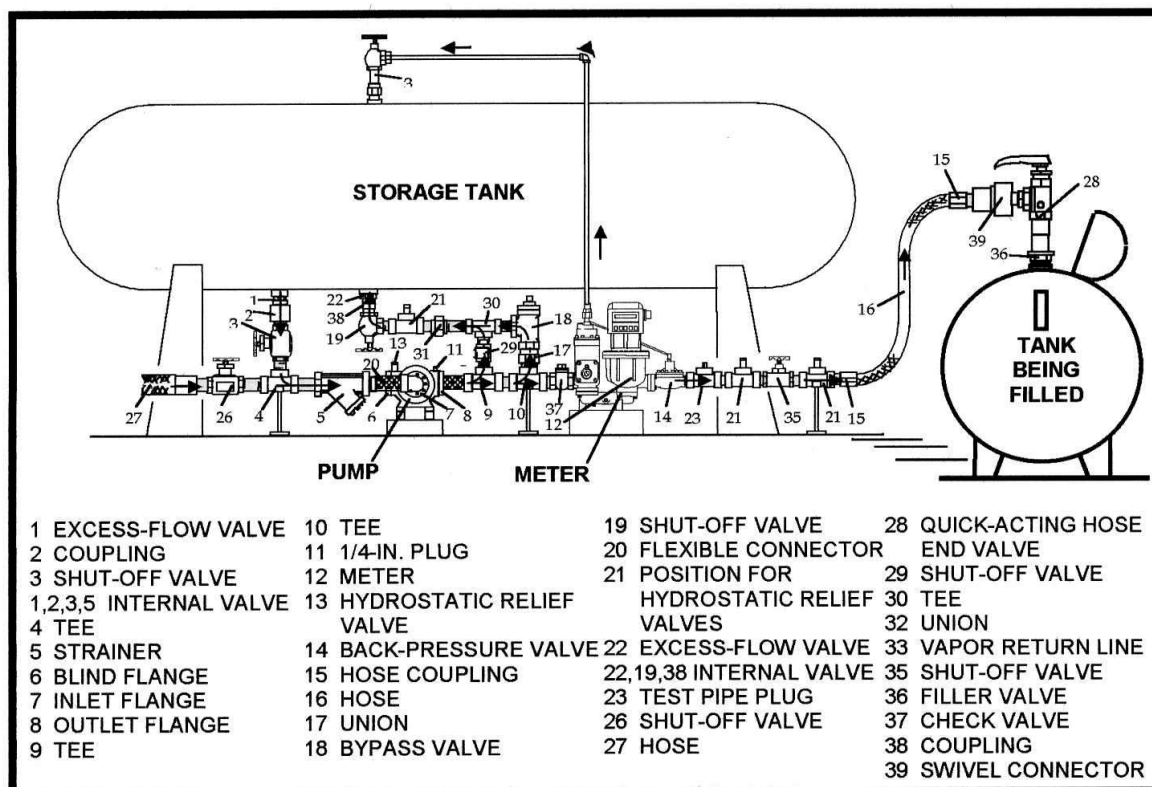

Fig. 4: TRADITIONAL BASIC LPG PUMPING SYSTEM
A "medium capacity pump" is a unit used when the required output is 20 to 50 USGPM of liquefied gas, during transfer operations. Such delivery rates can be attained when filling all sizes of tanks, except individually-filled cylinders. The medium sized pump can be used to do all kinds of work with reasonable efficiency. Pumps with a capacity of 35 to 50 USGPM are chosen in many cases, as these can be driven by 3 HP or 5 HP motors, with any type of electrical power available in the area. If electricity is not immediately available, *properly modified* gasoline, diesel, or LPG-powered internal combustion engines can be used. Medium sized pumps can unload transports at a rate of 2000 to 3000 USGPH. LPG pumps can fill motor vehicle fuel tanks having standard 1- $\frac{1}{4}$ in. filler valves at 25 to 30 USGPM; and can fill cylinders having $\frac{3}{4}$ in. cylinder-type valves at 7 to 10 USGPM. Three to five cylinders can be manifolded for filling in the same time that it would otherwise take to fill one. With this type pump and a four-cylinder manifold, one man can be kept very busy filling 100-lb. cylinders and a good worker will average one filled every minute. These 35 - 50 USGPM pumps can also load delivery trucks and transports at rates of 2100 to 3000 USGPH. Fig. 4 on the following page, illustrates what can be done with a medium-sized pump. The basic concepts shown on the following page are generally applicable for most transfer systems for light liquids, including liquefied gases. Note how a typical transport tank is unloaded by connecting a hose (27) and opening a hand bypass valve (29). This method is the least complicated for piping a dual-purpose pump used for both loading and unloading. For filling motor vehicle fuel tanks with an LPG pump, a hose (16) is used, and liquid is measured with a 1- $\frac{1}{4}$ in. meter, which performs satisfactorily with any medium sized pump filling tanks other than cylinders. The same hose can be used for filling delivery trucks. If it is not desired to meter the liquid into these trucks, a tee can be installed ahead of the meter between parts (10) and (37), and a second larger hose, of 1- $\frac{1}{2}$ in. or 2 in. size, connected there. Single small cylinders can also be filled through the meter with a hose (16), but usually the safer and more practical way is to provide a separate connection running to a convenient location where small cylinders can be filled by weight on a scale.
These transfer systems, set-up for the "original" style of available pumps, have always presented the most difficult problems to resolve. The following Table 2 (below), is based on Fig. 4.(pg. 9). These situations are where the mobile piping on a bobtail, or trailer, is very similar to the stationary piping in a bulk plant.
Pump outlet piping, as opposed to pump inlet piping, does not require as much attention with regard to its potential pressure drop characteristics. This is because the functionality and output capacity of the pump will not be seriously affected from the development of a reasonable amount of differential pressure. Therefore, within specified limitations, the outlet line can be smaller than the inlet line. The outlet line shown in Fig. 4 begins with an approved,
The "primary" bypass valve should be set at least 25 PSID below the adjustment of the "secondary" bypass valve. The actual differential pressure setting will depend upon the flow resistance of the valve ("overpressure"), the use conditions, the natural vapor pressure of the liquefied gas handled, and the applicable safety regulations in the area. The bypass valve must be sized to maintain the desired differential pressure even when the *total* pump discharge flow passes through it. (see *Table 1*, on pg. 4). After the bypass valve, the next important component affecting liquid flow from a typical mobile system would be the meter, especially on an LPG delivery vehicle (item 12 in *Fig. 4*). Meters must always be utilized within the capacity ranges as recommended by the manufacturers. The vapor return line must be at least the same size as the outlet on the vapor eliminator to permit unrestricted flow back to the supply tank. Otherwise, vapor accumulations may interfere with the proper metering of liquid flow, and could be further aggravated when the liquid level is approaching the bottom of the tank.